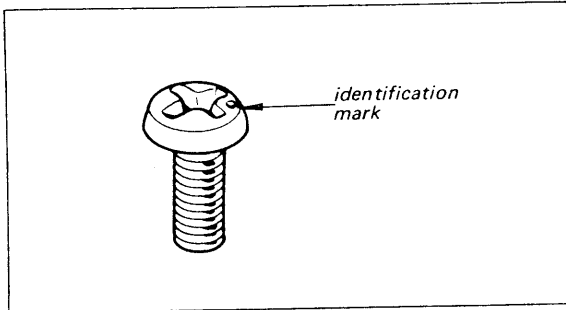

Fig. 2-1. ISO screw
**Note:** All screws in this set are manufactured to the specifications of the International Organization for Standardization (ISO). This means that the new and old screws are not interchangeable because ISO screws have an identification mark on their heads as shown in Fig. 2-1.